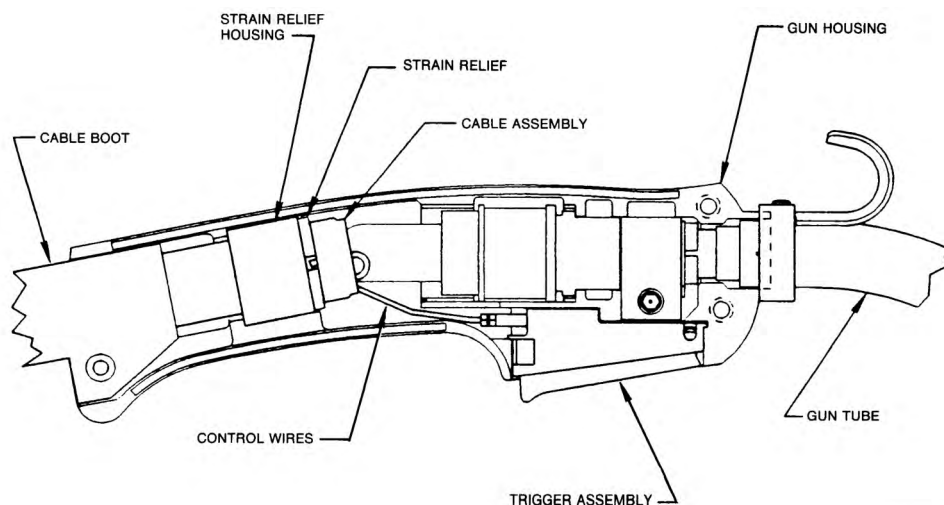

FIGURE D.3
- j. Assemble cable in left side of gun handle. Assemble trigger into the proper handle cavity and connect the control leads. Assemble right side of gun handle and tighten the three screws that hold the handle together. Refer to Figure D.3.